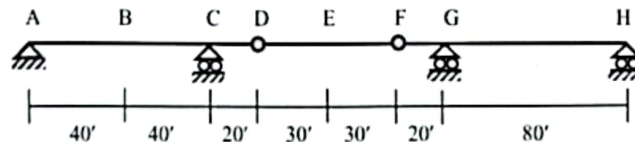

Fig. 8
7. a) Define influence line. Explain its necessity to draw. (10) 3
b) Draw the influence lines with ordinate for the following structure shown in Fig. 8 (30) 3 below:
(1) Vertical reactions at A and C. (ii) Shear and moment at B and E. (iii) Shear at just left of support C and G.